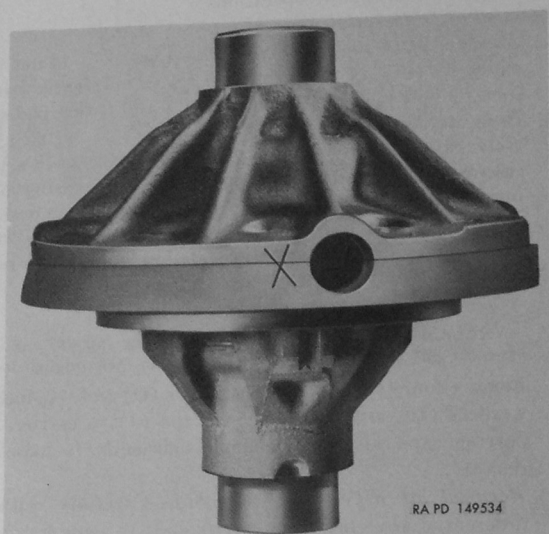

Figure 133. Differential case and cover match marks.
- (1) *Removal of drive gear.*—Determine that a match mark (fig. 133) is clearly visible on case and case cover. If mark is not clearly legible, make a new mark. Stand assembly on end to prevent damage to differential side bearings. Loosen and remove twelve $\frac{1}{2}$ -20 x $1\frac{1}{8}$ cap screws (W) and $\frac{1}{2}$ -inch lock washers (X) attaching drive gear (C) to case (L); then remove drive gear.
- (2) *Separate Differential Case and Cover.*—Tap lightly with soft hammer to separate case cover (S) from case (L); then remove side gears (N), thrust washers (M) and (P), spider pinions (Q), and spider (R).
- (3) *Removal of differential side bearings.*
- (1) *Installation of spider pinion and side gears.*—Clean inside of case and case cover thoroughly and lubricate all parts. Install new thrust washer (M) in case cover with side having oil grooves toward case cover; then install side gear (N) in case cover. Install spider pinion (Q) and new thrust washer (P) over each arm of spider (R); then install spider and pinion assembly over side gear previously installed. Install remaining side gear (N) and new thrust washer (M) over spider. Position case (L) over previously assembled parts, being sure that match marks are in alinement (fig. 133).